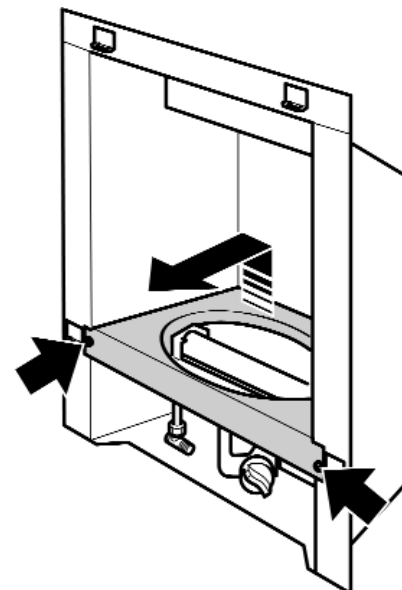

Figure 47. Removal of burner module
6. Remove the two screws to the side of the burner cover (See figure 47)
7. Detach the burner cover by lifting clear of the burner module (See figure 47). Place the burner cover in a safe place away from the work area.